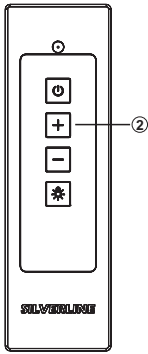

Fig. 16
1. ➔ Press the (+) button on the remote controller to increase the revolution of the device (Fig. 16).